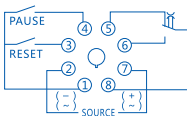

Figure 7 Wiring diagram of NJS1-S
3.2 Wiring diagram of NJS1 series: see Figure 3~ Figure 7; NJS1-S panel drawing: see Figure 8.